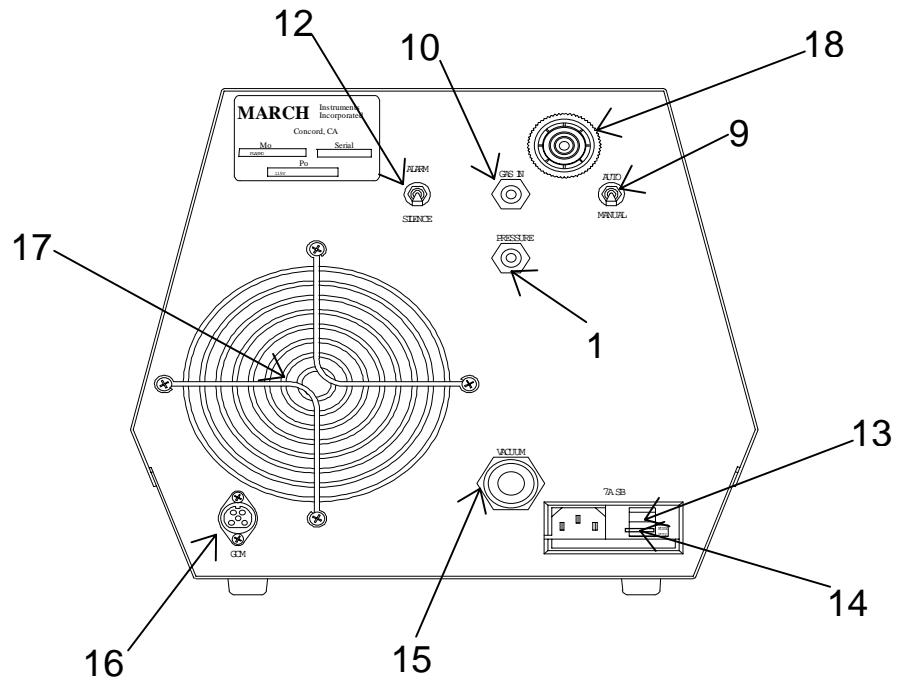

FIGURE 3-2.
7.) Connect the 1" vacuum hose to the vacuum port at the rear of the unit, item 15 of figure 3-2, page 19. The hose is supplied with two clamps. Make sure that both clamps are securely fastened.
10.) If you are not using a Gas Control Module, connect the regulated gas supply hose to the 1/4 inch fitting labeled GAS IN (item 10 of Figure 3-2) on the rear of the system. Secure the gas line connection to the rear of the chamber with the 1/4 inch CLIP LOCK.
- 8.) Make sure that the AAT Alarm is in ALARM position (item 12, Figure 3-2, page 18).